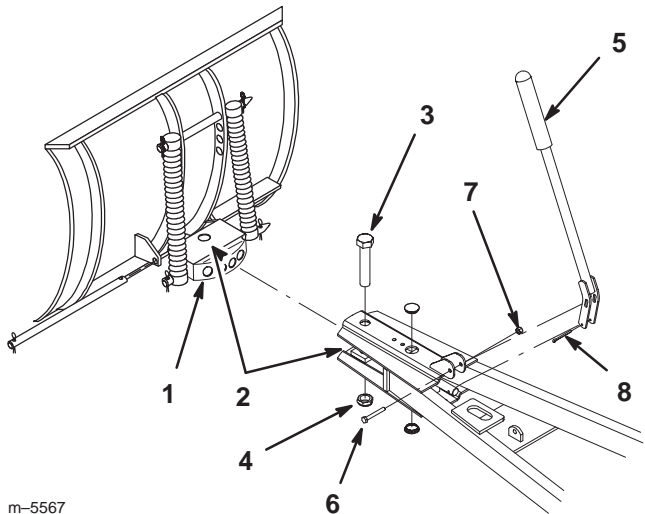

Figure 4
5. Apply general purpose grease to the pivot area of the frame and channel (Fig. 4).
6. Slide the blade channel assembly between the frame mount and secure it with a bolt (3/4 x 3-3/4 in.) and locknut (3/4 in.) (Fig. 4).
7. Connect the index lever to the angle pin with a cotter pin (1/8 x 1-1/2 in.) (Fig. 4).
8. Attach the index lever to the frame assembly with a bolt (1/4 x 2 in.) and locknut (1/4 in.) (Fig. 4).